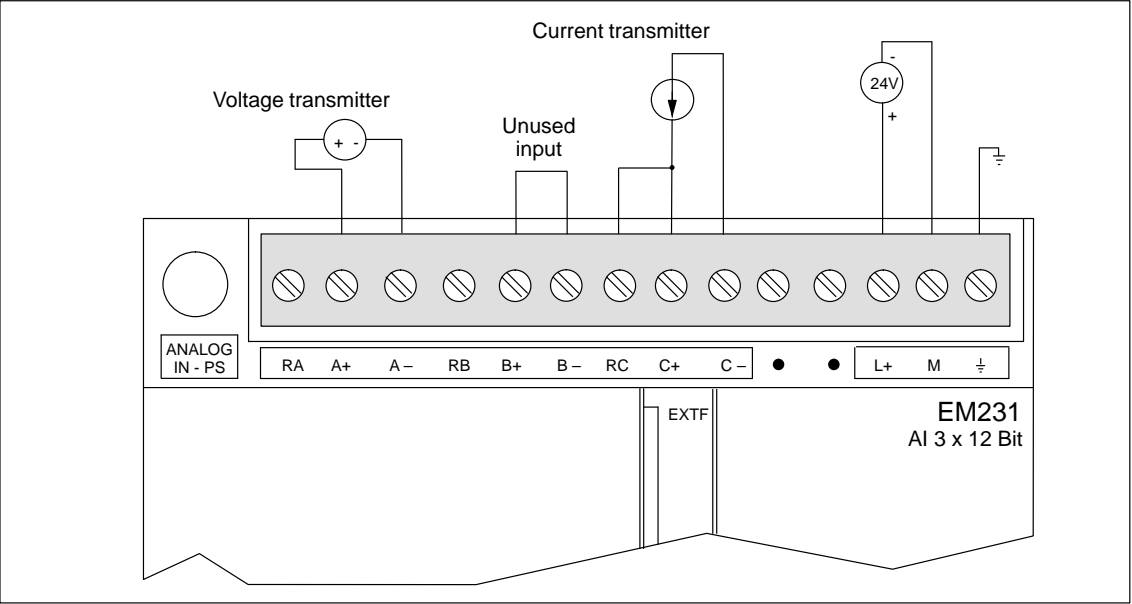

Figure A-33 Connector Terminal Identification for Expansion Module EM231 Analog Input AI 3 x 12 Bits
- Short the inputs for any unused channels, as shown in Figure A-33.